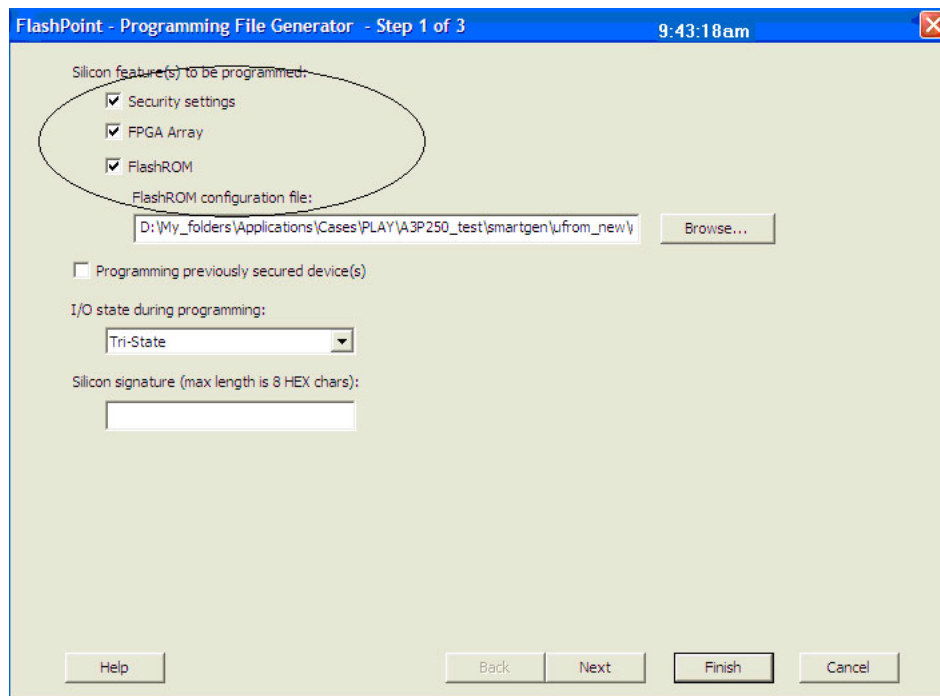
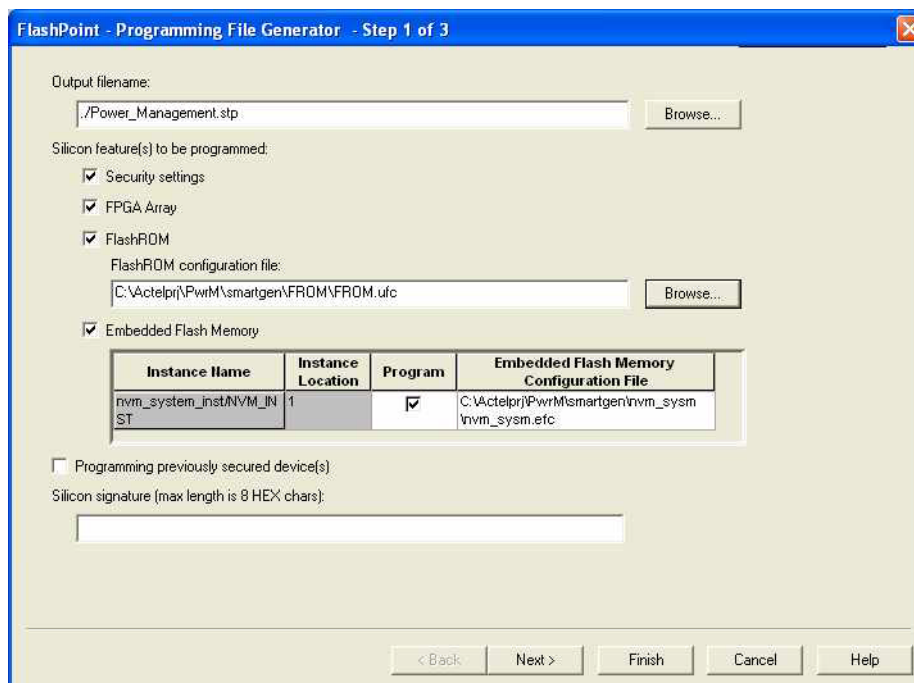
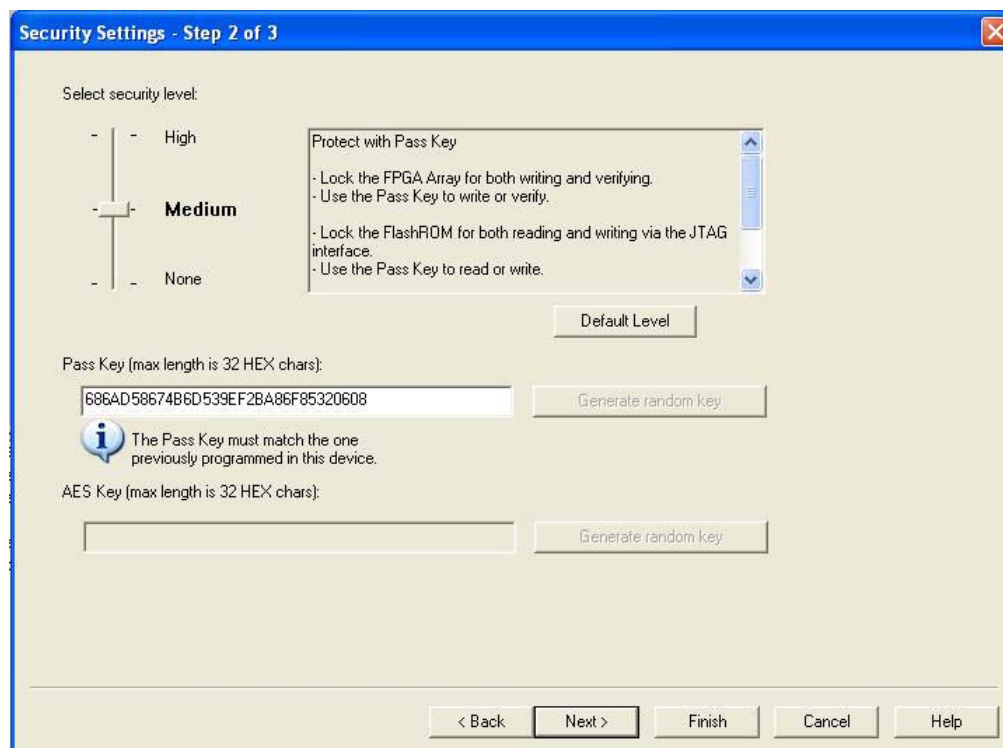

Figure 11-10 • All Silicon Features Selected for IGLOO and ProASIC3 Devices
Figure 11-11 • All Silicon Features Selected for Fusion
Figure 11-19 • FlashLock Pass Key, Previously Programmed Devices
1. Select the **Silicon features to be programmed** (Security Settings, FPGA Array, FlashROM, Flash Memory Blocks), as shown in Figure 11-10 on page 276 and Figure 11-11 on page 276. Click **Next**.
Figure 11-10 on page 276 and Figure 11-11 on page 276 show the option **Programming previously secured device(s)**, which the user should select before proceeding. Upon going to the next step, the user will be notified that the same FlashLock Pass Key needs to be entered, as shown in Figure 11-19 on page 284.
It is important to note that when the security settings need to be updated, the user also needs to select the **Security settings** check box in Step 1, as shown in Figure 11-10 on page 276 and Figure 11-11 on page 276, to modify the security settings. The user must consider the following: